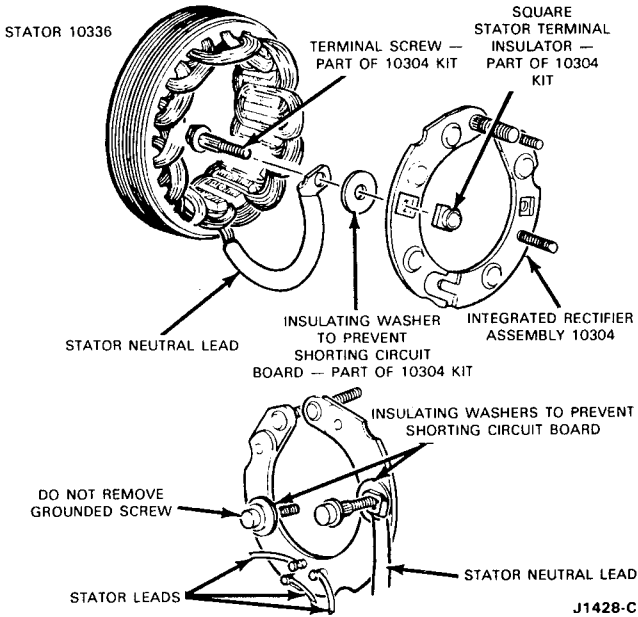

FIG. 17 Stator Terminal Installation — Integral Rectifier Circuit Board
- If the alternator rectifier has an exposed board, remove the screws from the rectifier by rotating the bolt heads 1/4 turn clockwise to unlock them and then remove the screws (Fig. 16). Push the stator terminal straight out on a rectifier with the diodes built into the circuit board (Fig. 16). Avoid turning the screw while removing, to make certain that the straight knurl will engage the insulators when installing. Do not remove the grounded screw (Fig. 17).
The dished washers are to be used only on the circuit board with exposed diodes (Fig. 16). If they are used on the single circuit board, a short circuit will occur. A flat insulating washer is to be used between the stator terminal and the board, when a single circuit board is used (Fig. 17).